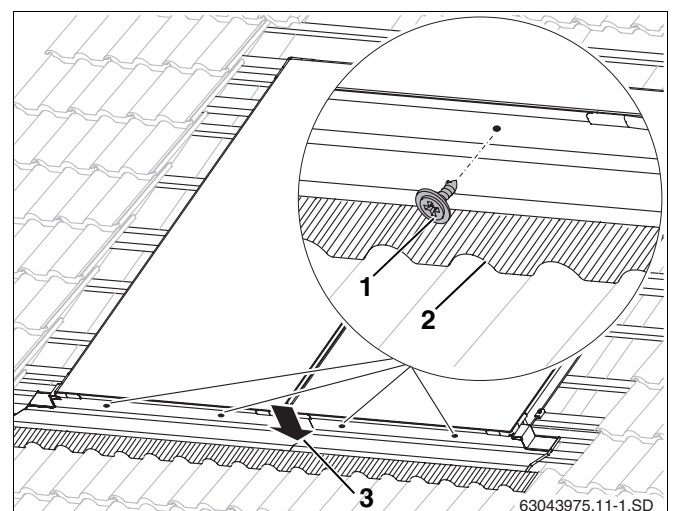

Fig. 48 Fastening the lower panels
- Fasten the panels with screws (12 mm long, Fig. 48, **Pos. 1**) and sealing discs in the centre punch marked on the panel.
- Press the upper facing panel down onto the lower one (Fig. 48, **Item 3**).
- Carefully adjust flashing in the area in front of the roof tile contour (Fig. 48, **Item 2**).